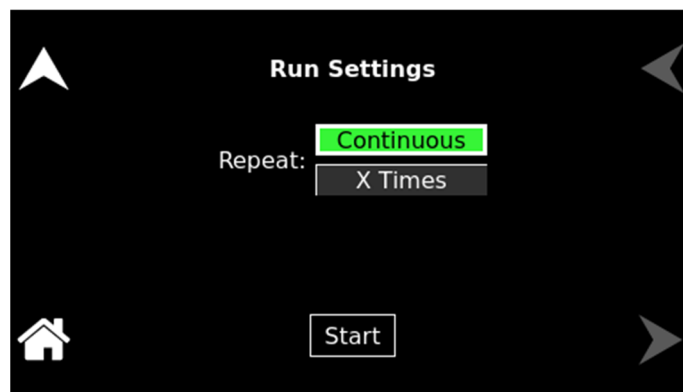

Figure 8-24: RUN Menu
9. Navigate to the RUN menu of the TRANSIENTS screen; refer to Figure 8-24.